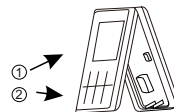

Fig.3
4. After connecting the connecting wire to the main body of the wire controller, as shown in Fig. 3, install main body part according to the following steps: